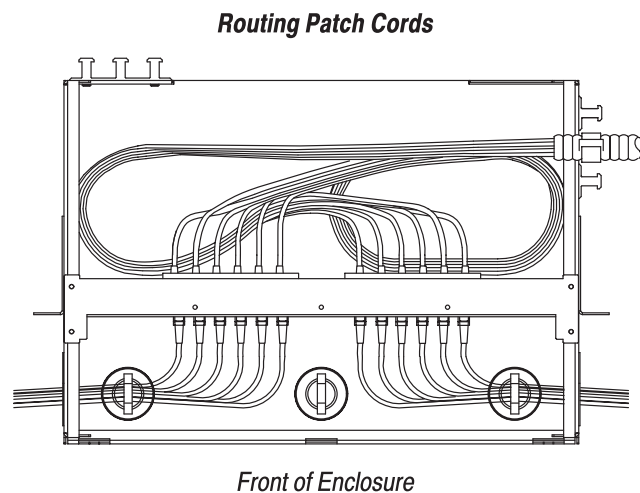

Figure 7
2. Dress the patch cords through the network saddle rings, and join the connectors to the coupling bushings at the front of the interface housing modules or cassettes. See Figure 7.